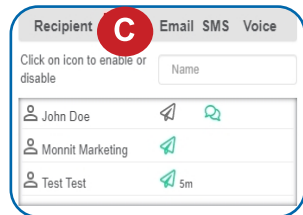

Figure 19
C. Recipient list identifies who will receive the notification. See Figure 19.